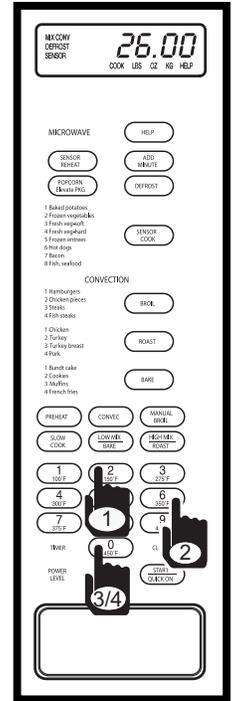

Figure 3-91.
3. Enter desired cooking temperature. Press the number 5 key, "325F - ENTER - COOKING - TIME" will flash on display. (See Figure 3-91)